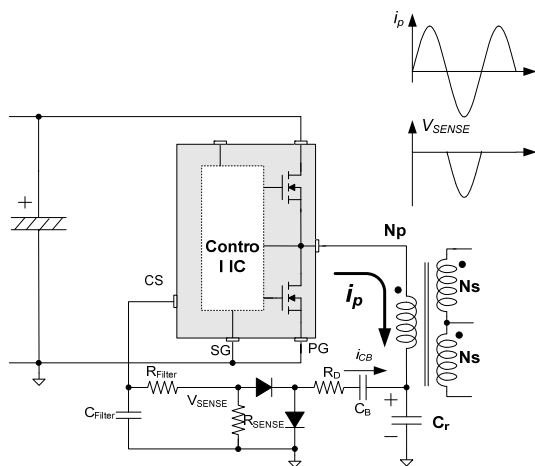

Figure 29. Capacitive Sensing
8.2 Capacitive Sensing Method: The drain current can be sensed using an additional capacitor parallel with the resonant capacitor, as shown in Figure 29. During the low-side switch turn on, the current, i_{CB} through C_B , makes V_{SENSE} across R_{SENSE} . The i_{CB} is scale-down of i_p by the impedance ratio of C_r and C_B . Generally, $1/100 \sim 1/1000$ is adequate for the ratio of C_B against C_r . R_D is used as a damper for reducing noise generated by switching transition. Several hundreds of ohm to a few of kilo-ohms can be normally used.